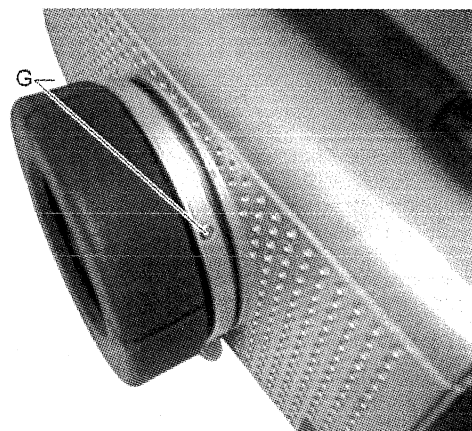

Fig. 4.6
4.4 Removing the top cover (fig. 4.6, 4.7 and 4.8)